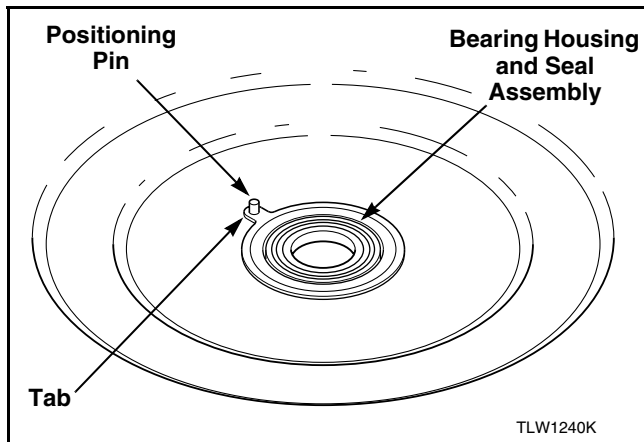

Figure 49
- Remove bearing housing and seal assembly by grasping bearing through hole and pulling bearing and seal out through bottom of outer tub. Refer to *Figure 49*.
- Place the new bearing housing and seal assembly over opening in outer tub with the tab over the positioning pin. Refer to *Figure 49*.